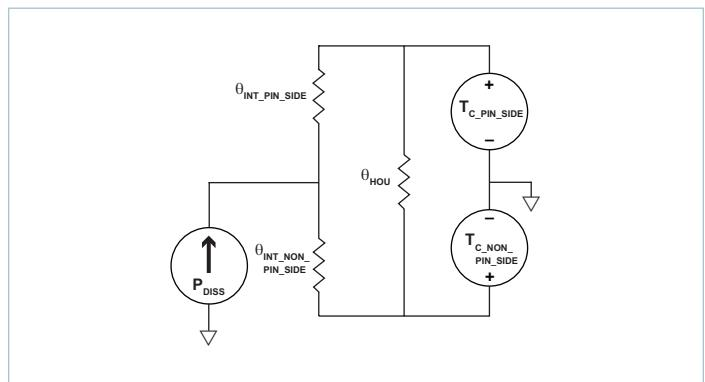
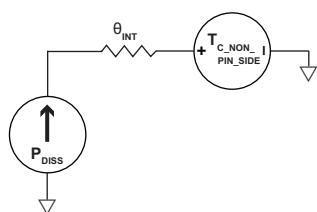

Figure 22 — Double-sided cooling thermal model
Figure 23 — Single-sided cooling thermal model
The VIA package provides effective conduction cooling from either of the two module surfaces. Heat may be removed from the pin-side surface, the non-pin-side surface or both. The extent to which these two surfaces are cooled is a key component for determining the maximum power that can be processed by a BCM, as can be seen from the specified thermal operating area in Figure 1. Since the BCM has a maximum internal temperature rating, it is necessary to estimate this temperature based on a system-level thermal solution. For this purpose, it is helpful to simplify the thermal solution into a roughly equivalent circuit where power dissipation is modeled as a current source, isothermal surface temperatures are represented as voltage sources and the thermal resistances are represented as resistors. Figure 22 shows the "thermal circuit" for the BCM in a VIA package.
- Single-side cooling: the model of Figure 22 can be simplified by calculating the parallel resistor network and using one simple thermal resistance number and the internal power dissipation curves; an example for non-pin-side cooling only is shown in Figure 23.